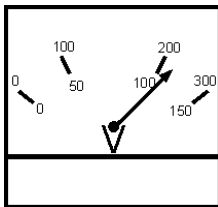
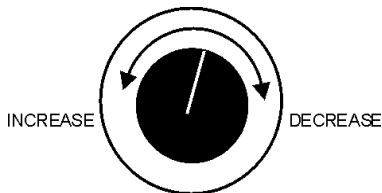

Figure 29. Voltage Meter (Volts)
Figure 30. Voltage Adjust Control Knob
10. The generator's voltage meter (Figure 29) displays the 120 VAC in **VOLTS**. If the voltage is not within the specified frequency tolerance, use the voltage adjustment control knob (Figure 30) to increase or decrease the desired voltage.